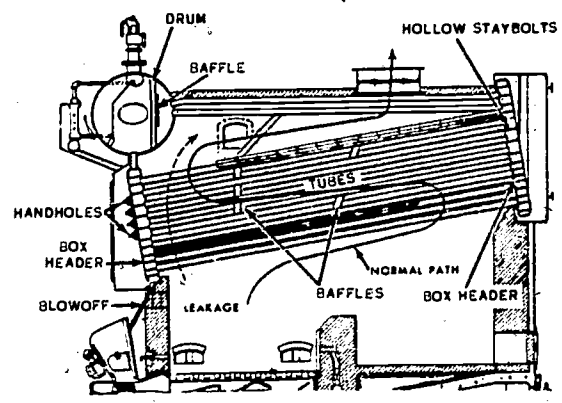

Figure 36. A cross-drum box-header boiler.
33. The box-header cross-drum boiler is the second type, and it is illustrated in figure 36. The box-headers are shallow boxes made of two metal plates: (1) a tube-sheet plate, which is bent to form the sides of the box, and (2) a plate containing the handholes, which is riveted to the tube-sheet plate. The tubes enter at right angles to the box-header and are expanded and flared in the same manner as in the sectional-header boiler. The boiler is usually built with the drum located in front. This boiler has either cross or longitudinal baffling that is arranged to divide the boiler into three passes. Water enters the bottom of the drum, flows through connecting tubes to the box-header, moves through the tubes to the rear box-header, and goes back to the drum.